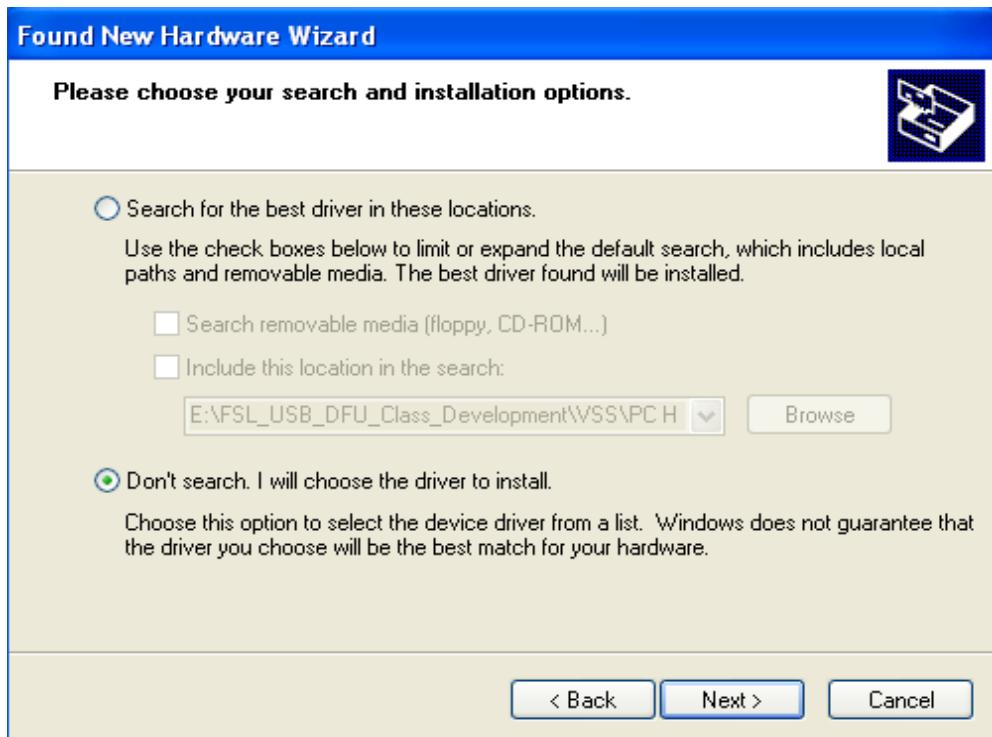

Figure H-4. Search and installation options
2. Select Install from a list or specific location (Advanced) option and click on the **Next** button. Search and installation options window appears as shown in Figure H-4. Select “**Don’t search, I will choose the driver to install**” option and click **Next**.